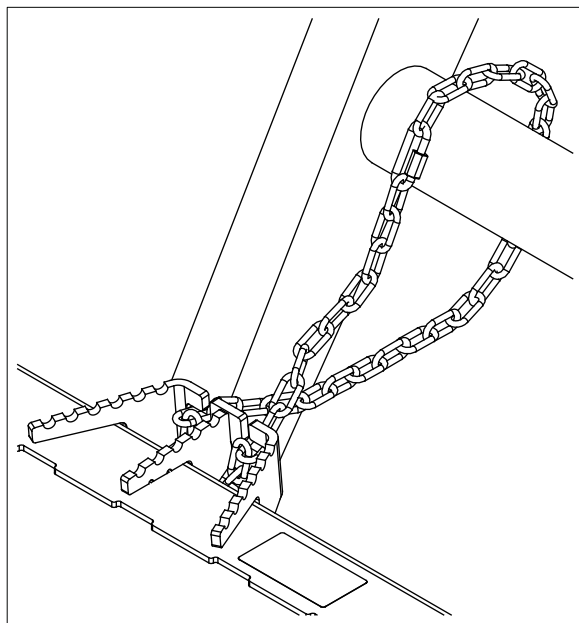

figure 3
3. Attach chains to sweeper using one 5/16 wide jaw quick clip per side. (figure 3) Leave chains loose with equal slack in both sides. **Do not entangle hydraulic hoses.**